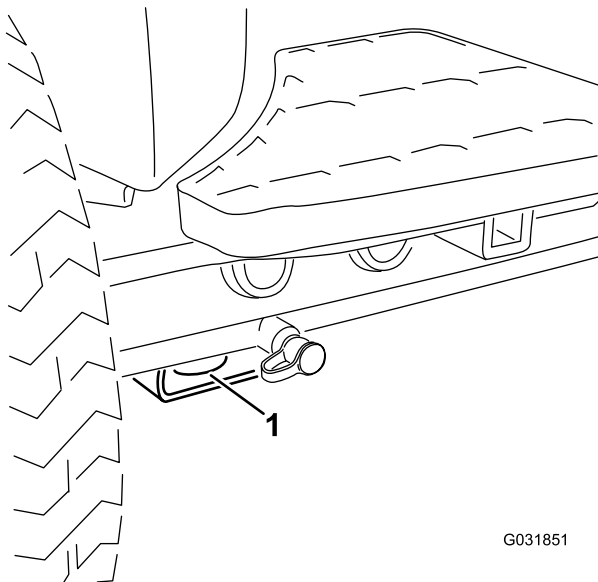

Figure 55
- **Front of the machine**—the hole in the rectangular pad, under the axle tube, inside each front tire (Figure 55).